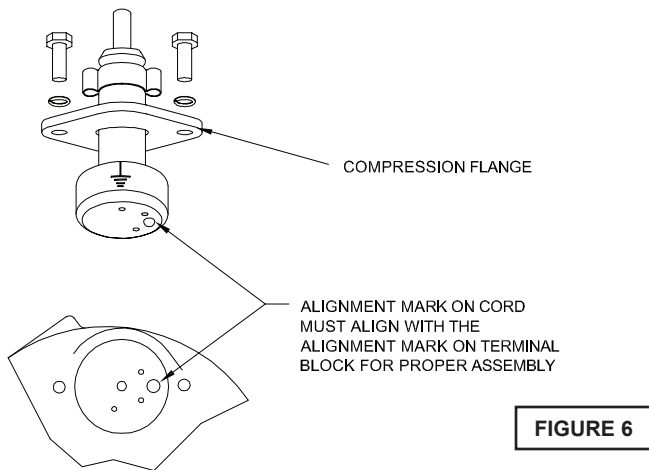

FIGURE 6
Power/Sensor Cords - Refill the cooling oil as outlined in paragraph F-1.4. Make wire connections as outlined in paragraph F-3.3. Insert female end of cord plug into housing bore aligning timing mark with hole in terminal blocks (21) (26) (see Figure 6). Compress cord plug with compression flange (9a)(10a) by tightening cap screws (6) into the motor housing (2). Torque to 132 in-lbs.